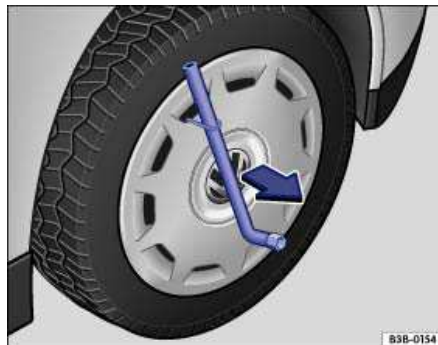

Fig. 208 Pulling the wheel cover off.
- Slide the lug wrench through the clip ⇒ fig. 208 and pull the wheel cover off in the direction of the arrow.